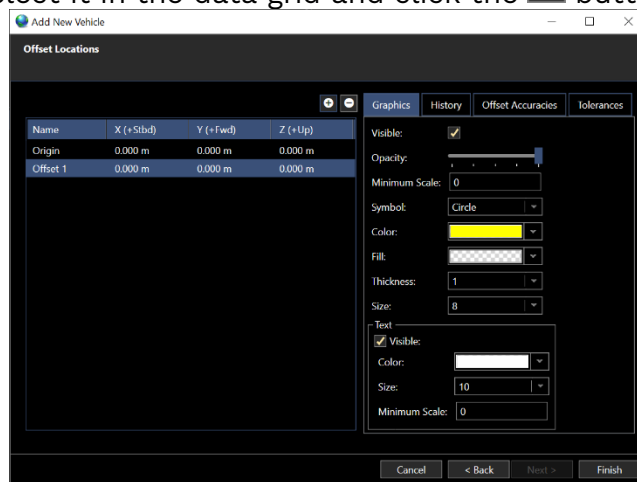

FIGURE 7-18 VEHICLES - NEW VEHICLE WIZARD - OFFSET LOCATIONS PAGE - OFFSET ADDED
- c. Edit the offset name and XYZ values (see Figure 7-18), note that offsets are from the CRP to the sensor
- d. Edit the **Graphics** presentation (see Figure 7-18), this controls the display of the offset symbol and annotation in Map views
- C. **Minimum Scale:** Map scale limits to display the offset symbol. Default Minimum is set to zero (0), always visible